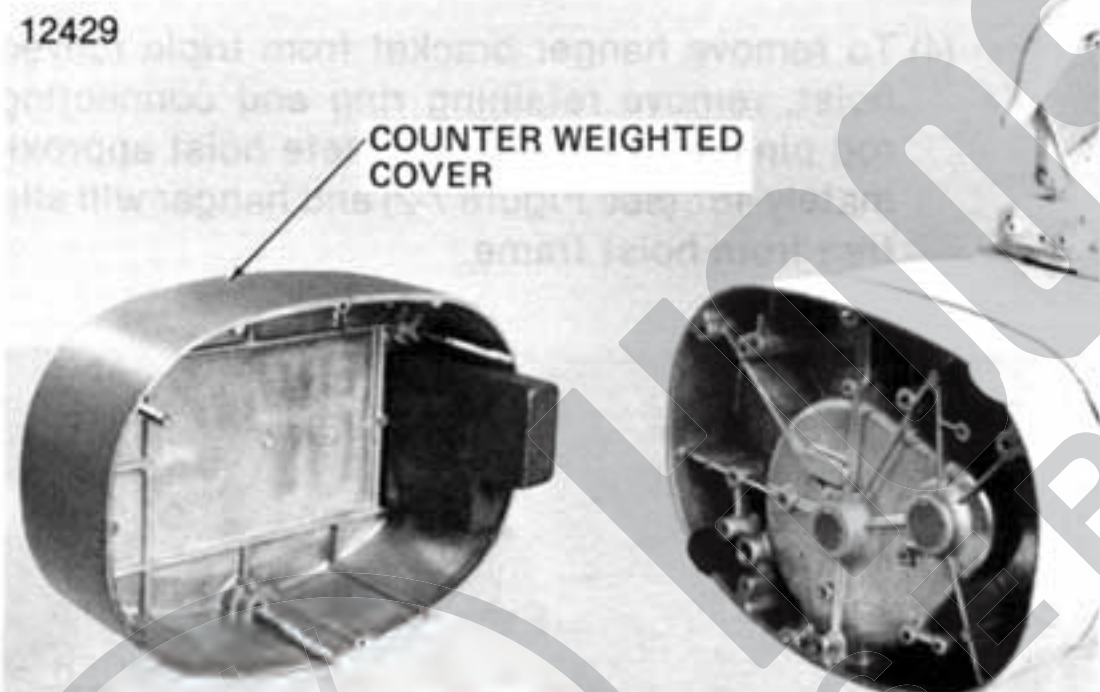

Figure 7-3. View of Hoist with Counterweighted Compartment Cover Removed.
- (1) Disconnect hoist from air source. Remove three cover retaining screws and lift off cover (Figure 7-3). Cover screws have retaining rings which hold them in cover. Use caution as cover contains a counterweight.